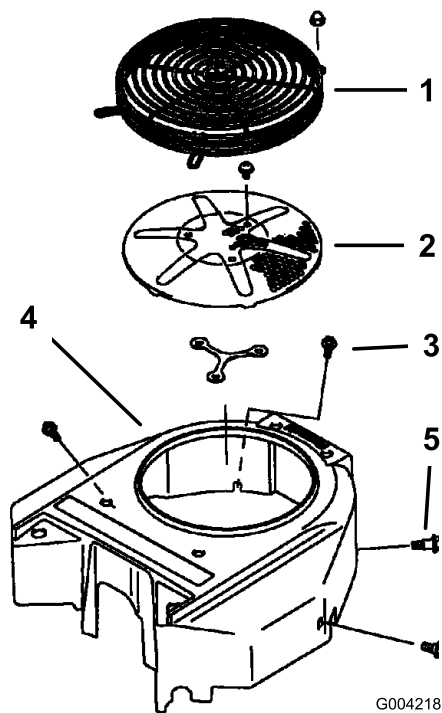

Figure 75
3. Remove the air-intake screen, the recoil starter, and the fan housing (Figure 75).
5. Install the air-intake screen, the recoil starter, and the fan housing (Figure 75).